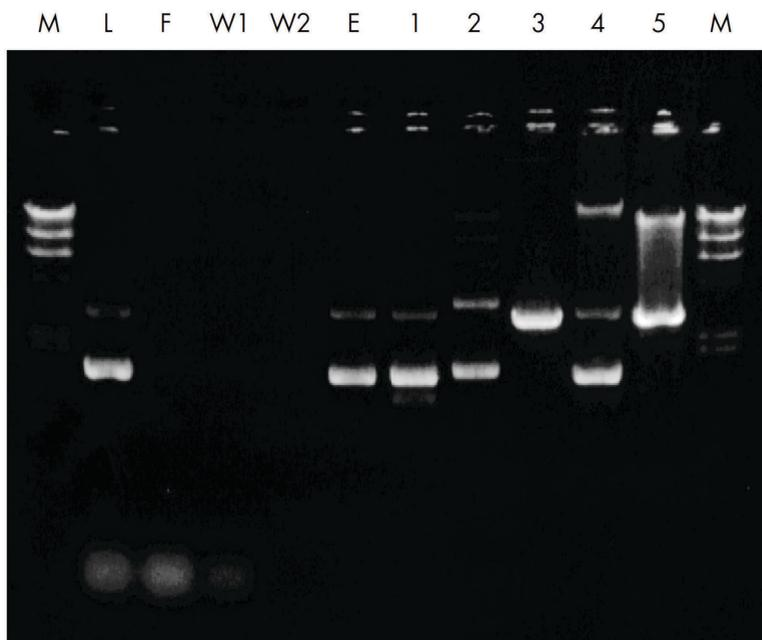

Figure 4. Agarose gel analysis of the plasmid purification procedure.
- a) Dimer form of plasmid Dimers or multimers of supercoiled plasmid DNA are formed during replication of plasmid DNA. Typically, when purified plasmid DNA is electrophoresed, both the supercoiled monomer and dimer form of the plasmid are detected upon ethidium bromide staining of the gel (see Figure 4, page 53). The ratio of these forms is often host dependent.
- b) Plasmid has formed denatured supercoils This species runs faster than closed circular DNA on a gel and is resistant to restriction digestion (see Figure 4, page 53). Do not incubate cells for longer than 5 min in Buffer P2. Mix immediately after addition of Buffer P3.
Run 2 µl of each sample on a 1% agarose gel* for analysis of the fractions at each stage of the plasmid purification procedure. Figure 4 shows an analytical gel of the different fractions, together with examples of problems that can arise at each step. If you find that you have a problem with a particular step of the protocol, turn to the hints in the relevant section of the “Troubleshooting Guide”, page 47. If the problem remains unresolved, or if you have any further questions, please contact QIAGEN Technical Services via support.qiagen.com.